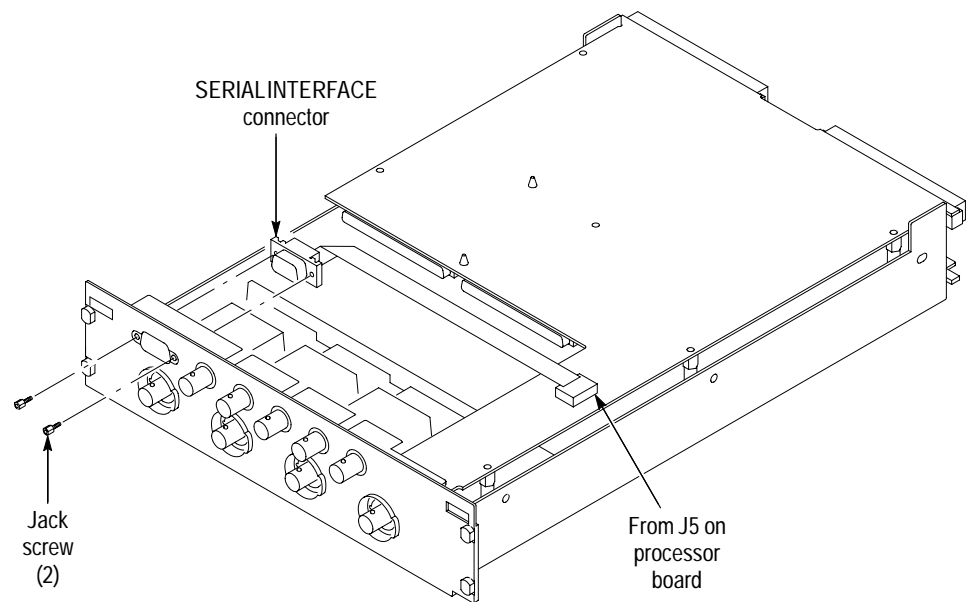

Figure 6–5: Serial interface connector removal
**Removal** Use the following procedure and Figure 6–5 to remove the serial interface cable assembly.
3. Using a 3/16 inch nut driver, remove two (2) jack screws that secure the SERIAL INTERFACE connector to the front panel.
Use the following procedure and Figure 6–5 to install the serial interface cable assembly.